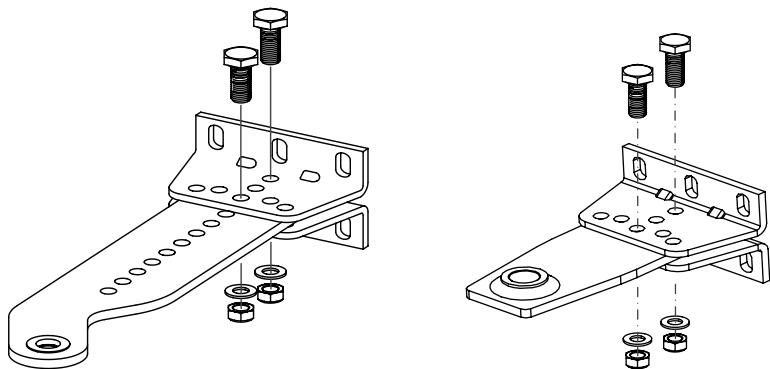

Figure 8. Assembling a rear, front fitting
- after defining the mounting dimensions, A and B and a location to attach a rear fitting to the post, select an assembly type for the rear fitting (*tab. 6, fig. 8*). When needed, cut the bracket of the rear fitting to the required size. In case the bracket is not long enough, use improvised materials to add length to the rear fitting.